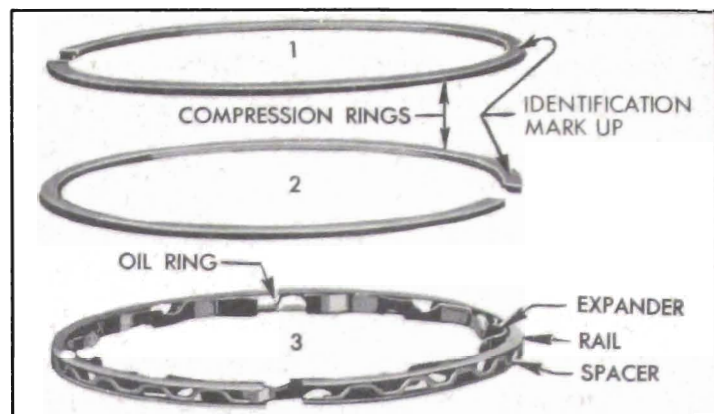

Figure 2-36—Compression and Oil Rings
7. Install compression rings in first and second lands of each piston. 364 engine compression rings are identical and are assembled with inner bevel toward bottom of piston. 401 engine top rings are assembled with inner bevel toward top of piston and second ring inner bevel toward bottom of piston. See figure 2-36. All compression rings are marked either with